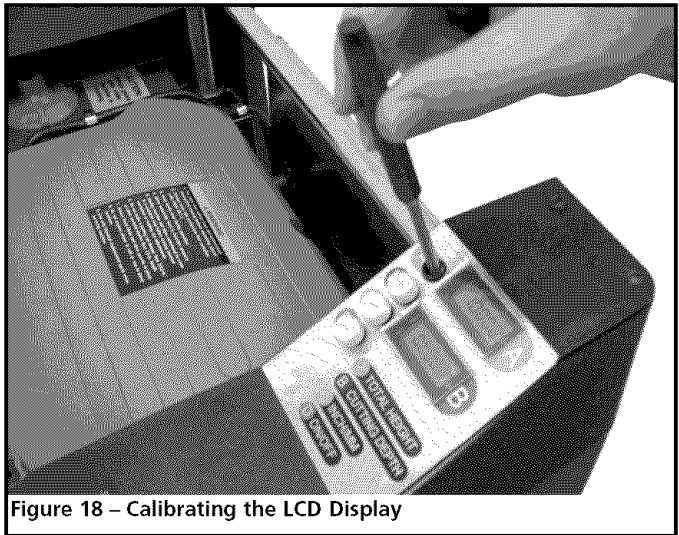

Figure 18 – Calibrating the LCD Display
- Remove button 'A', and using a punch or other suitable object, insert into the button hole and press. The display A will read 1.0000" or 25.4 mm. (see Figure 18).